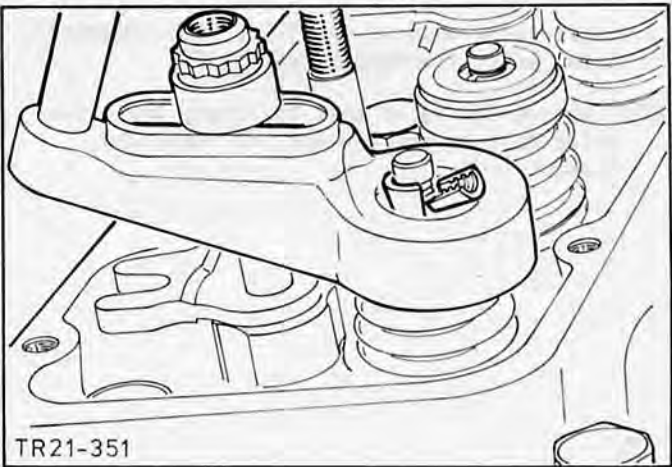

Fig.102. Remove valve collets.
7. Press valve spring down with special tool 21-056 and remove valve collets, Fig.102. Release the valve spring and remove spring retainer, valve spring and oil seal.